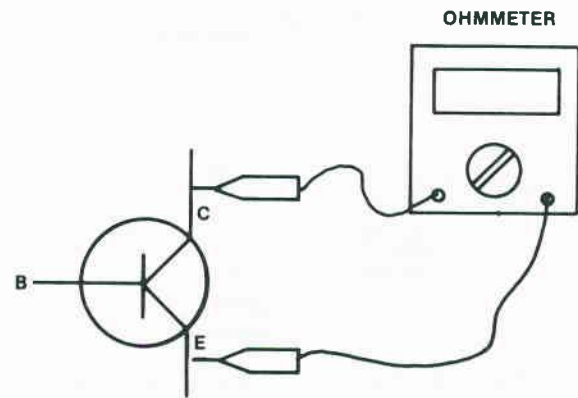

Fig. 6-22. A transistor can be tested using an ohmmeter placed across the collector-to-emitter junction.
The following tests apply to both PNP and NPN transistors. If an ohmmeter is placed between the collector (C) and the emitter (E) as shown in Fig. 6-22, it effectively bridges a two-diode combination in which the diodes are opposing. You should get a high resistance reading with the leads applied both ways. (It's possible to wire the transistor in a circuit that makes the transistor collector-emitter junction act like a single diode. In this case you could get a DE. Both results are O.K.)